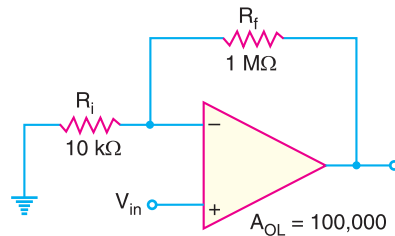

Fig. 25.103
10. Determine the closed-loop voltage gain for the circuit shown in Fig. 25.103. [101]